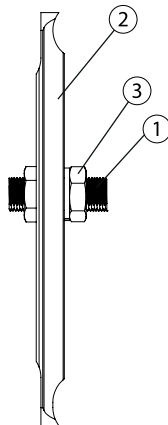

Fig. 26
The rear wheels can be adjusted laterally by repositioning axle bushing (1) (Fig. 26) on mounting plate (2).
- Loosen nuts (3) on the axle bushing (1).
- Turn the bushing (1) in the desired direction to adjust the spacing.
- Firmly tighten the nuts (3).